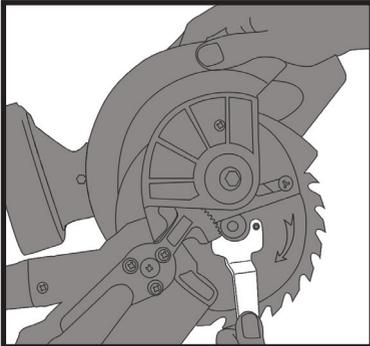

Fig 3
5. Locate the pins of the 'C' spanner into the holes in the outer blade flange, and hold the spanner firmly to prevent the arbor from rotating. (Fig. 3)